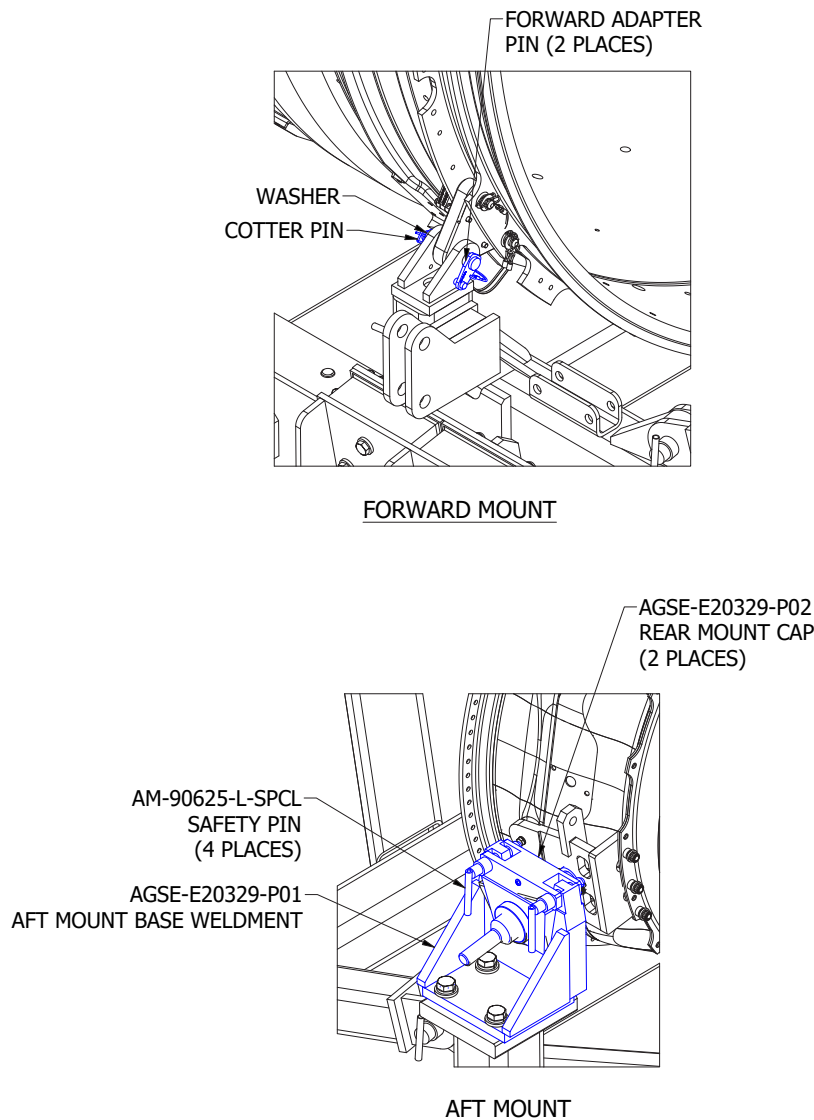

Figure 4.5-1
- 2). Remove and retain two (2) AGSE-E27716-S01 forward adapter pin assemblies at the FORWARD end of the cradle by removing the cotter pins and washers. (Figure 4.5-1).
- 3). Remove and retain four (4) AM-90625-L-SPCL safety pins with two (2) AGSE-E20329-P02 rear mount caps from the LH and RH AFT mounts. (Figure 4.5-1).